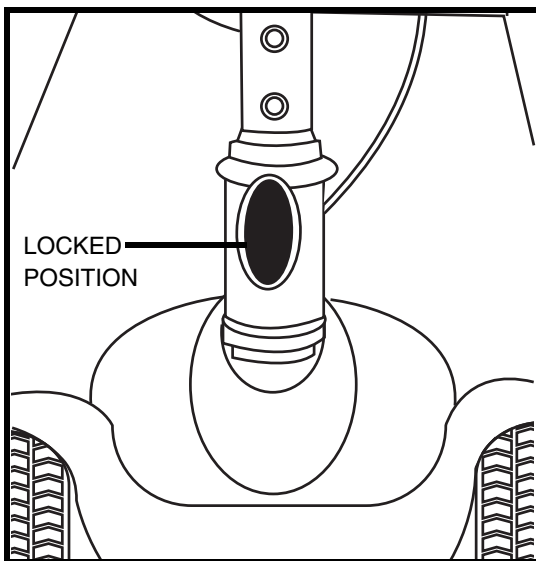

Figure 21. Tiller Lock Knob (Locked)
1. Lock the tiller in the straight ahead position by pushing the tiller lock knob in and turning it clockwise 90°. See **figure 21**. The front wheel must face forward in order to lock the tiller.